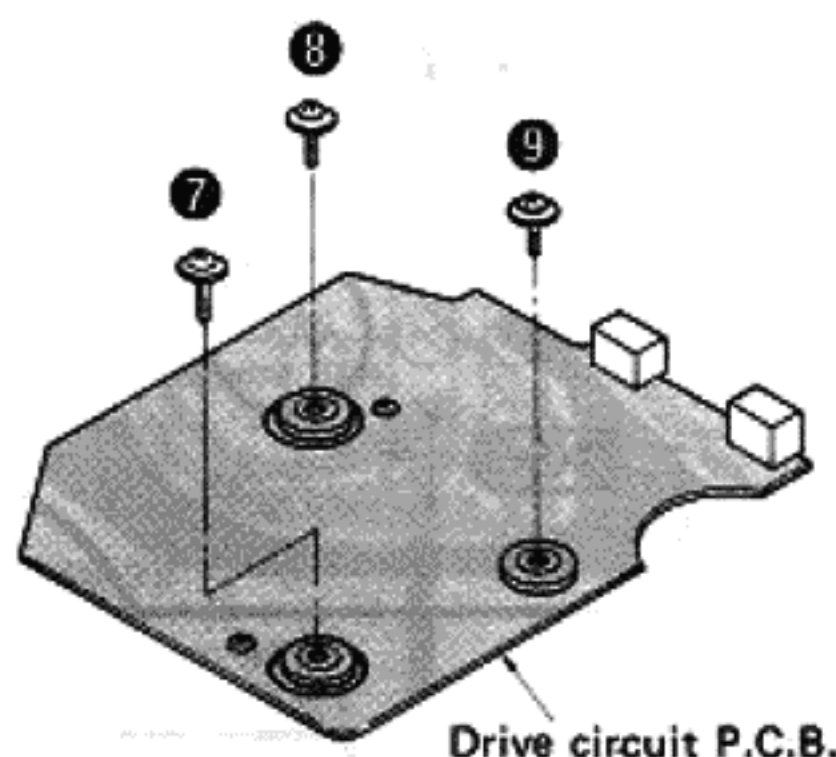

Fig. 2
2. Remove the 3 setscrews (Fig.2 : ⑦~⑨). Then the drive circuit P.C.B. can be detached.